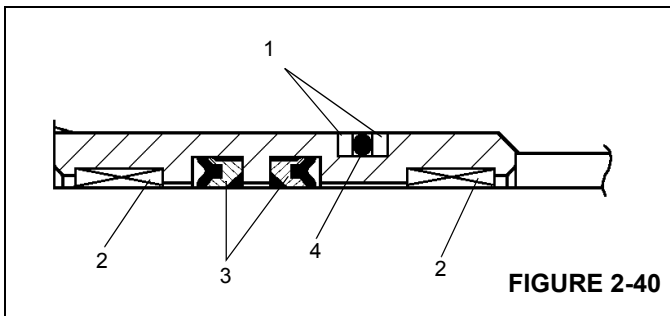

FIGURE 2-40
- Install the O-ring and backup rings on the outside of the seal retainer and the rod seals and wear rings in the inside of the seal retainer Figure 2-40.